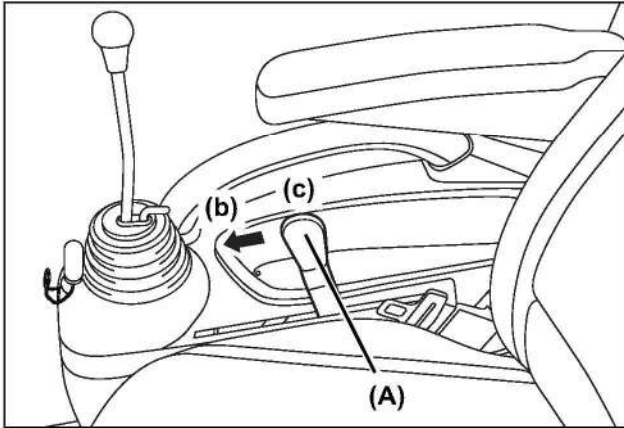
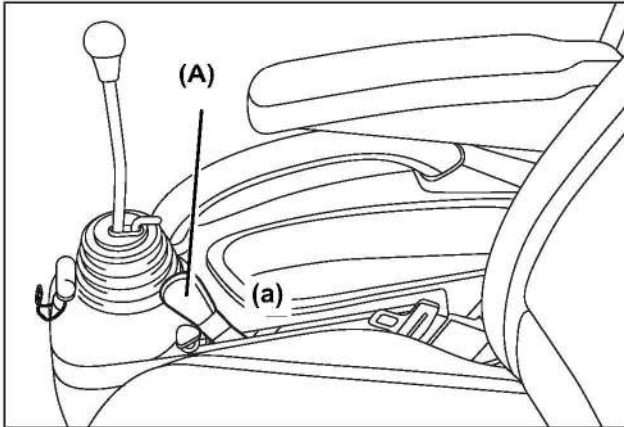

Fig 7-9
Fig 7-10
3. Push the 3-point hitch control lever forward to the lowest position and lower the mid- or rear mounted implements to the ground. (Fig 7-9, Fig 7-10)